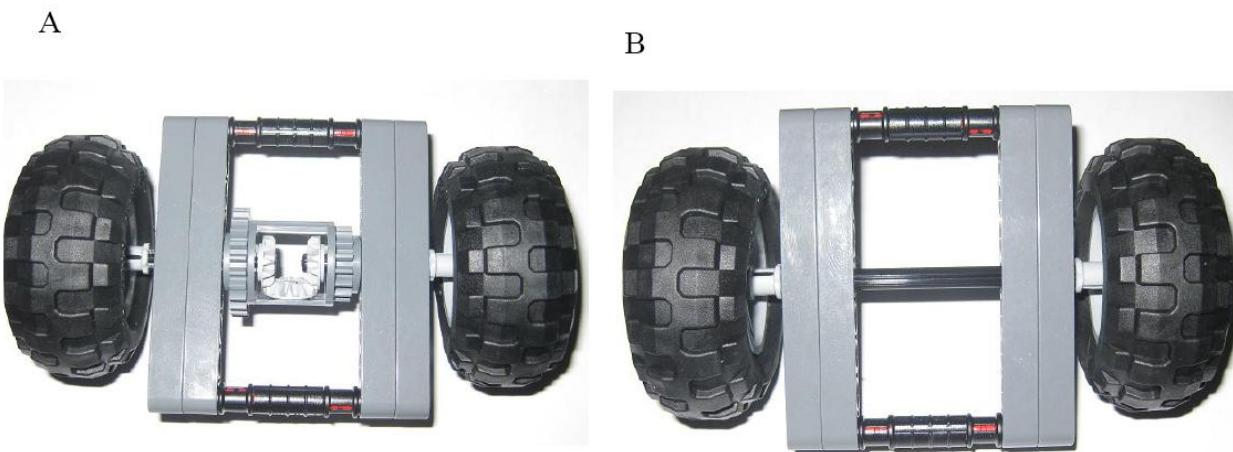

Figure 1
Caption: Figure 1. Student adjusting a differential gear
- Give the students roughly ten minutes to construct both chassis as described in the attached construction outlines. After this is concluded each group should have two chassis as shown in figure 1(A&B).
Image file name: Comparsion_Figure1.jpg